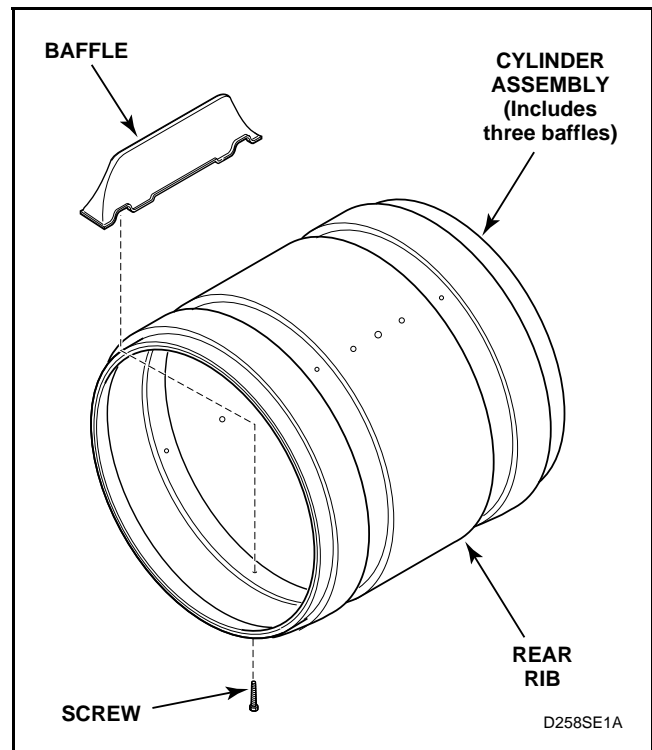

Figure 31
- Baffles – Remove screws holding baffles to cylinder. See *Figure 31*.